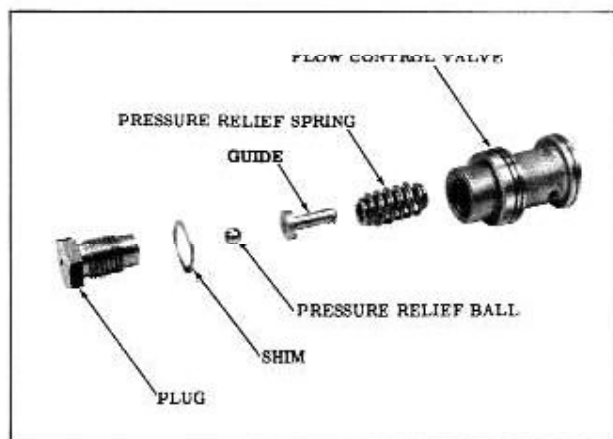

Fig. 4-27 Flow Control Valve
1. If the flow control valve was disassembled, assemble as shown in Fig. 4-27. Use the same number of shims removed, as altering shim thickness will change relief pressure. Tighten the plug to approximately 4 ft. lbs.